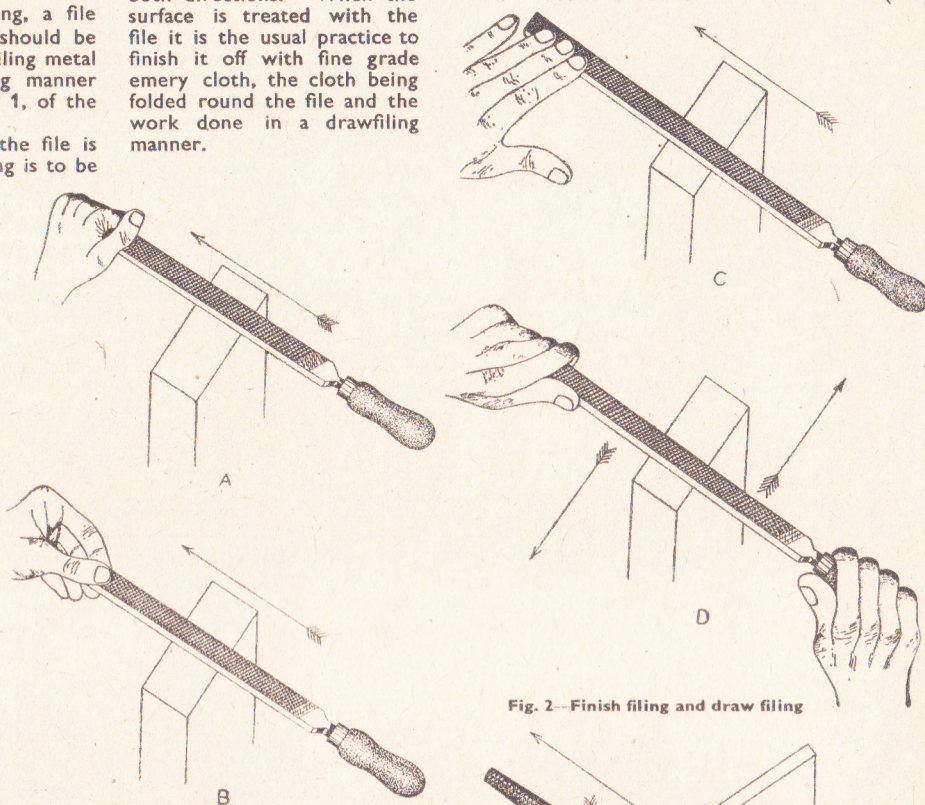
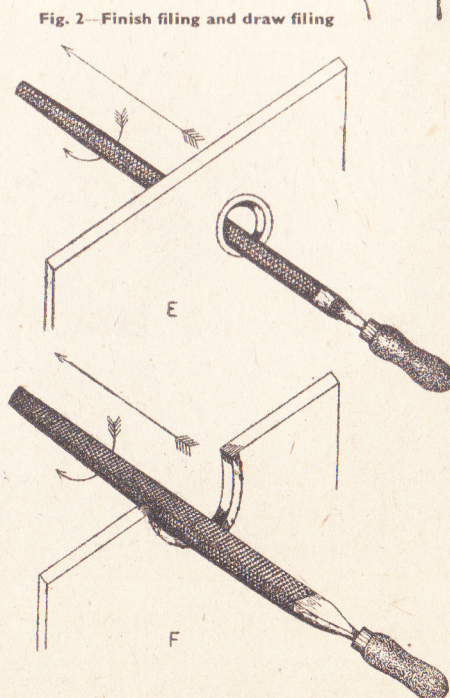

Fig. 1—Heavy and light filing
Fig. 3—Filing holes and curves
For a guide where a piece of work requires heavy or rough filing, a file with fairly coarse cut teeth should be used. The method of rough filing metal is described in the following manner with the aid of view (A) Fig. 1, of the accompanying illustrations.
Much depends upon how the file is held if the work of heavy filing is to be done with more or less ease. The left hand should grip the end of the file, as indicated in view (A) Fig. 1, and the right hand should firmly grip the handle. When filing do not use the file in a see-saw manner, take firm strokes, keeping the file flat and use pressure and force in a forward direction indicated by the arrow. Relieve the pressure and force on the backward stroke, simply allowing the file to trail over the surface of the work.
For light filing a slightly different application is needed if the work is to be a success. A file with medium cut teeth is used for light filing, and the file is held at the end with the grip made by the thumb and finger tips, as indicated by view (B) Fig. 1. Use less force and pressure as applied for heavy filing, but the required pressure is made likewise on the forward stroke in the direction of the arrow.
Two further hints on filing may be of interest to many readers, and these deal with filing out holes and curves in metal. The method of enlarging a hole is described with the aid of view (E) Fig. 3. The end of the round file is best held as indicated in view (B) Fig. 1, the handle being gripped in the usual manner. Commence filing the hole with firm forward strokes in the direction of the arrow, and at the same time turn the file in a clockwise direction as indicated by the curved arrow.
When filing out a curve as indicated in view (F) Fig. 3, the